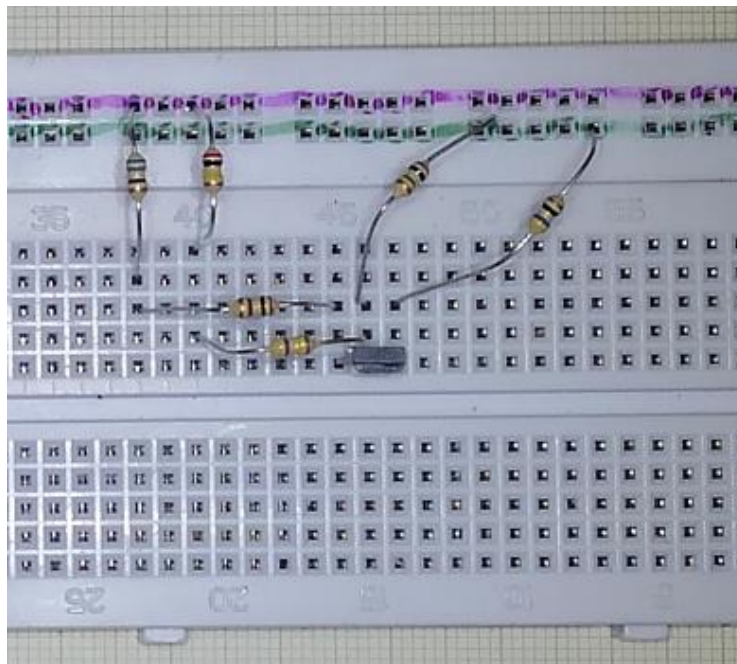

Figure 10 – Sample layout of biased MOSFET circuit
- Now build the circuit on your breadboard being as neat as possible (see Figure 10). Try and avoid components crossing. Measure the voltages, including  $V_{USB}$ , using Probe A, DC mode on x10, 5 V Amplitude and compare them with your LTSpice values.